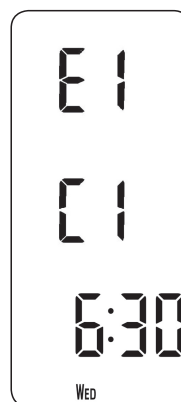

Fig. 11
a) Press **PROG** until Event 1 flashes (**Fig. 11**).